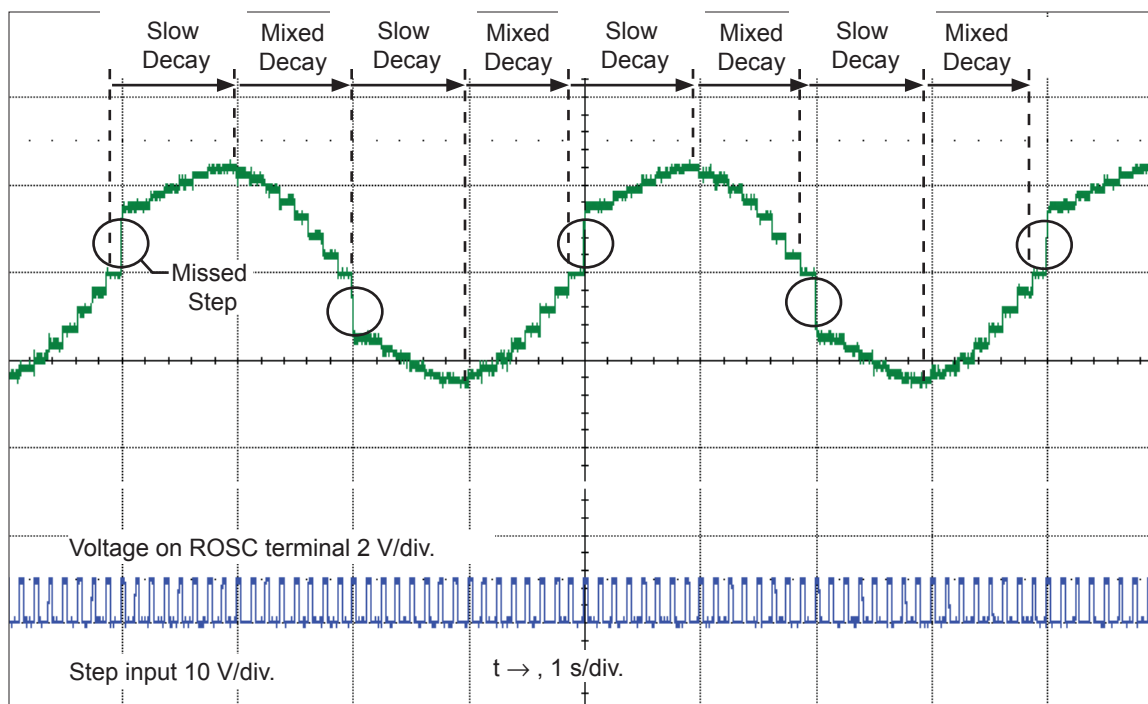
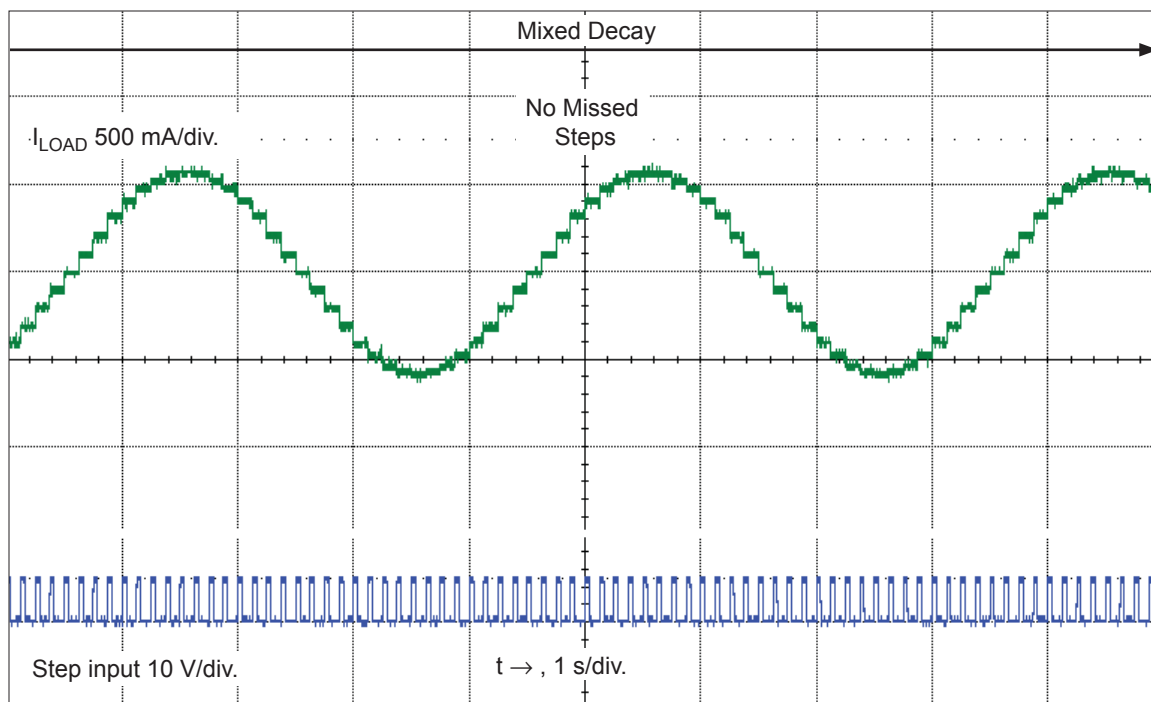

Figure 2. Missed steps in low-speed microstepping
Figure 3. Continuous stepping using automatically-selected mixed stepping (ROSC pin grounded)
**Mixed Decay Operation.** The bridge operates in Mixed decay mode, at power-on and reset, and during normal running according to the ROSC configuration and the step sequence, as shown in figures 3 through 6. During Mixed decay, when the trip point is reached, the A4982 initially goes into a fast decay mode for 31.25% of the off-time,  $t_{\text{OFF}}$ . After that, it switches to Slow decay mode for the remainder of  $t_{\text{OFF}}$ . A timing diagram for this feature appears in figure 7.
Typically, mixed decay is only necessary when the current in the winding is going from a higher value to a lower value as determined by the state of the translator. For most loads automatically-selected mixed decay is convenient because it minimizes ripple when the current is rising and prevents missed steps when the current is falling. For some applications where microstepping at very low speeds is necessary, the lack of back EMF in the winding causes the current to increase in the load quickly, resulting in missed steps. This is shown in figure 2. By pulling the ROSC pin to ground, mixed decay is set to be active 100% of the time, for both rising and falling currents, and prevents missed steps as shown in figure 3. If this is not an issue, it is recommended that automatically-selected mixed decay be used, because it will produce reduced ripple currents. Refer to the Fixed Off-Time section for details.